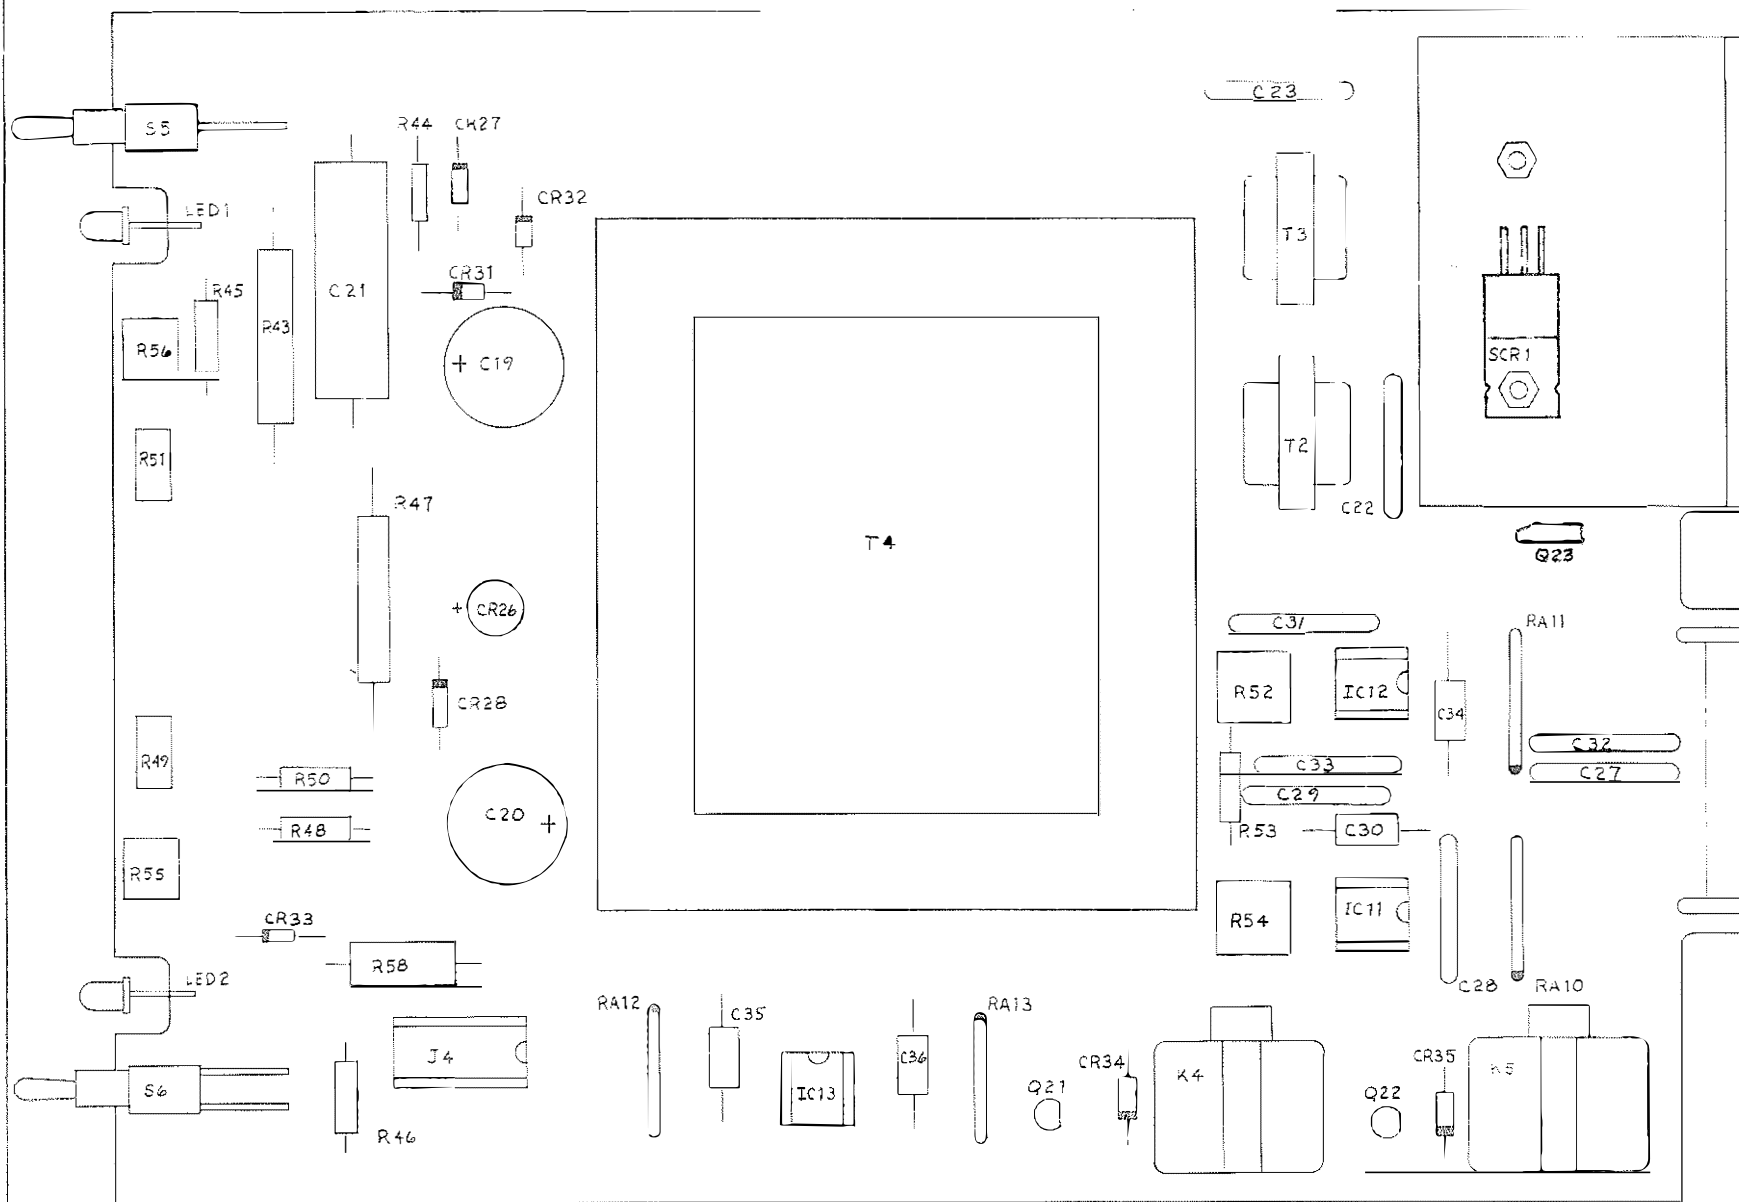

FIG.6-2 COMPONENT LOCATION POWER BOARD
6.4 Power Supply Problems (Refer to Fig. 5-3 and Fig. 6-2)
6.9 Thermocouple Circuit (Refer to Fig. 5-8 and Fig. 6-2)
6.10 Thermocouple Process Control (Refer to Fig. 5-9 and Fig. 6-2)